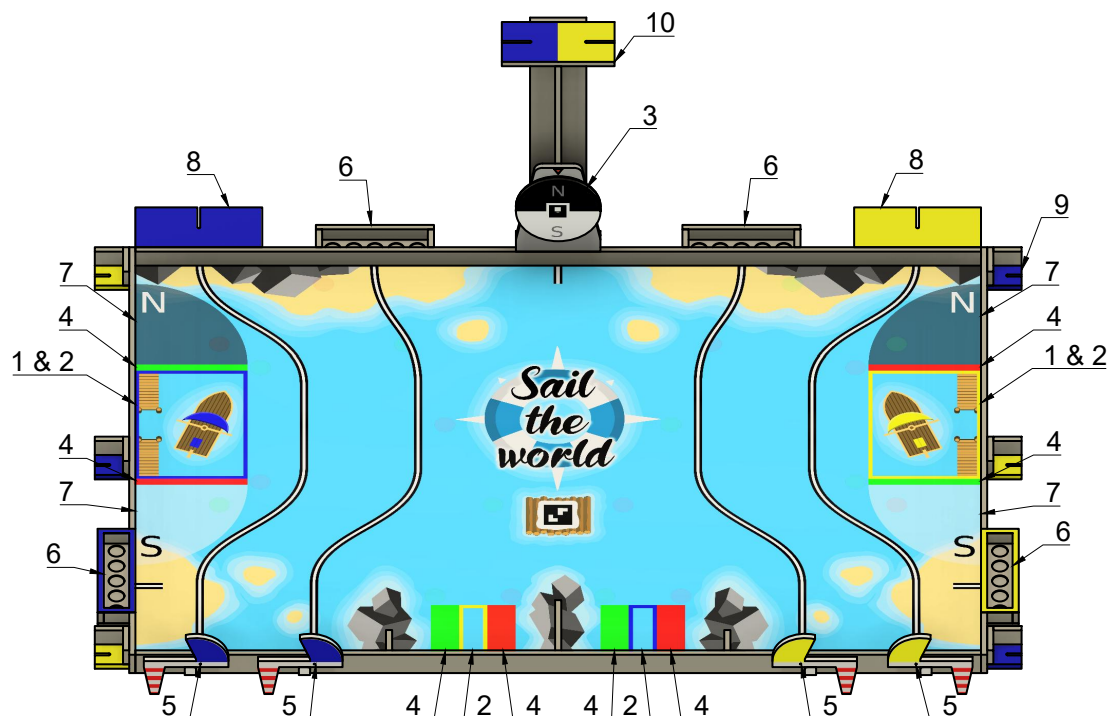

Figure 2 – Detailed view of the playing area
**The buoys:** There are 44 buoys on the table, represented by reusable plastic cups, half of them are red and the other half green. They are initially located on predefined places (cf. Figure 2):